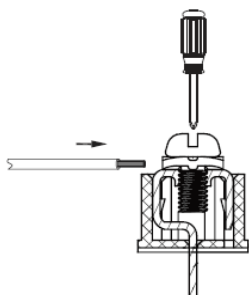

Fig. 22 —Connecting Communication Wire to Outdoor Unit Communication Terminal
3. Use a suitable screwdriver to fix the communication wire on the outdoor unit communication terminal as shown in Fig. 22.